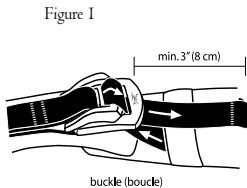

Figure 1
3. Harnesses with adjustable leg loops are fitted by tightening or loosening the webbing through the auto-locking buckle (Figure 1). All Arc'teryx auto-locking buckles are fully-separating if desired, and must be reassembled correctly otherwise serious injury or death may occur.